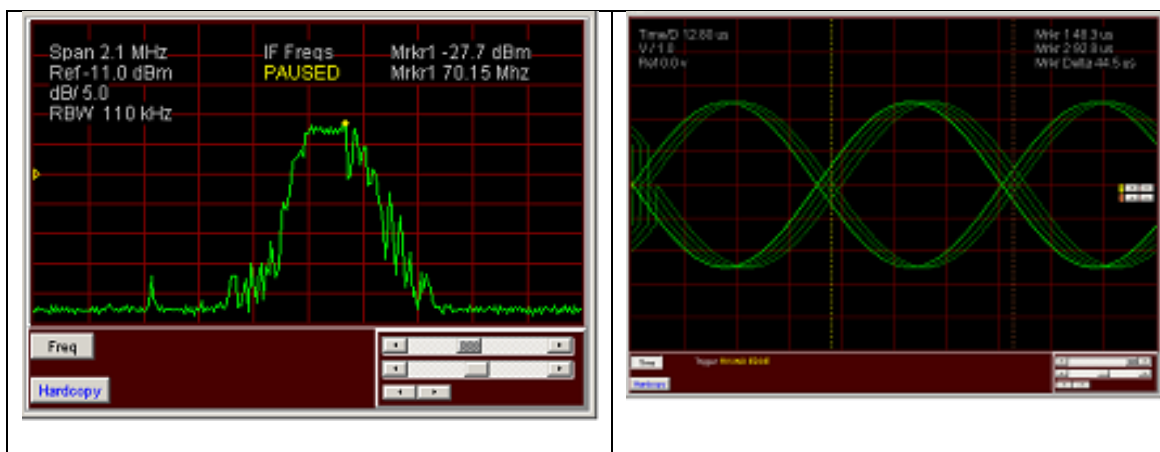

Figure 3-40 LS-22 Widget (Special Device)
The other special device is the **LS-22 Scope** widget, shown in Figure 3-40 below. This special device widget may be configured to display either spectral or time-domain data from the Lumistar LS-22-SE Spectral & Oscilloscope Display PCI Card. The display may be connected to any of the twelve (12) streams supported by the client. For more information on the LS-22-SE, see the hardware user's manual, Lumistar document number: **U0220201**. The setup and configuration of the LS-22-SE is also discussed at some length in paragraph 3.6 of Part-1 of this user's manual (server manual).
The LS-22 Scope widget is somewhat different from other client widgets in that placing and right clicking the mouse cursor in the display portion of the widget does not invoke the widget properties editor as with other widgets. Rather, the display controls are invoked and are different according to the mode the display is in. There are two display modes supported. The **Frequency** display mode, shown left in Figure 3-40, shows a
spectral plot of the signal. The **Time** mode, shown right in Figure 3-40, shows a time-domain plot of the signal. In Time mode, the display controls include: **Cursors**, **Pause**, and **Persistence**. In the Frequency mode, the display controls include: **Marker Mode**, **Pause**, **Bandwidth Averaging**, and **Spike Rejection**. See paragraph 3.6 of Part-1 of this user's manual (server manual) for more information on these display controls.